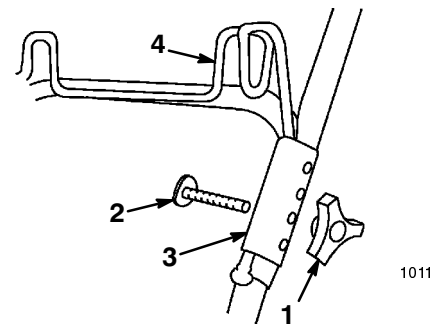

Figure 43
7. Remove the knob and the bolt that secures the left side of the upper and lower handle sections (Fig. 43).